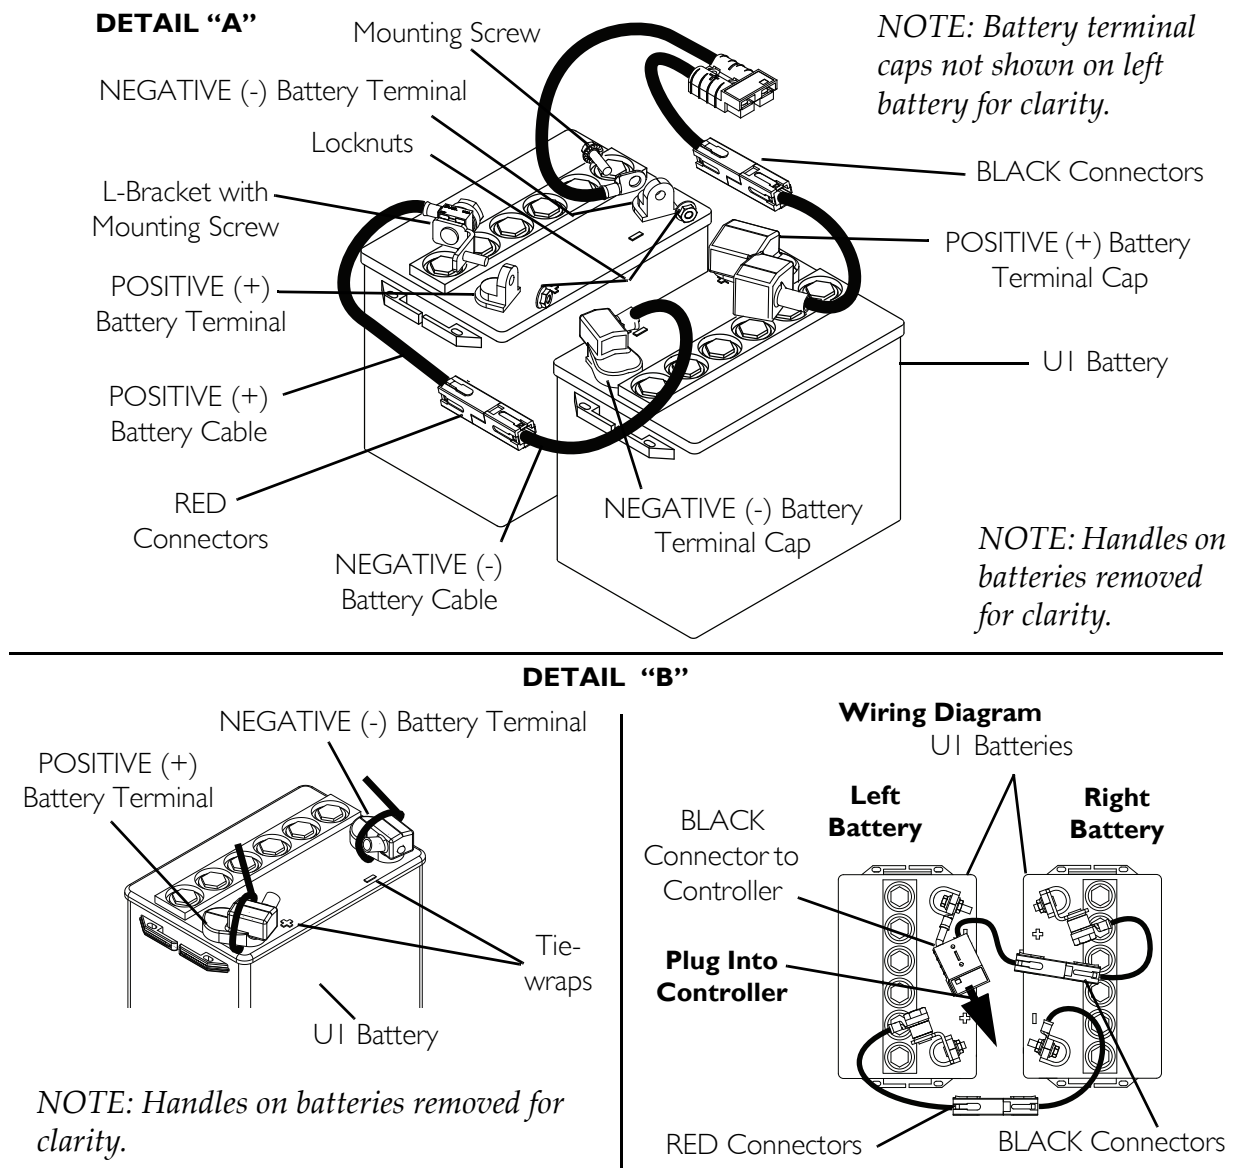
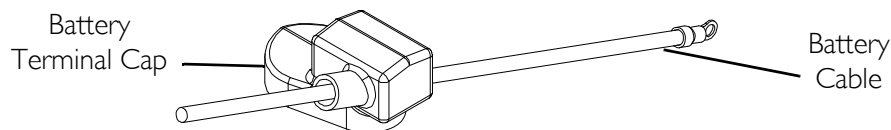

FIGURE 14.2 Connecting/Disconnecting Battery Cables
FIGURE 14.3 Battery Terminal Caps
Battery terminal configuration as shown in Detail “A” of **FIGURE 14.2** **MUST** be used. Batteries that have the terminal configuration reversed **MUST NOT** be used - otherwise serious injury or damage may occur.
When connecting the battery cables to the batteries, the battery cables **MUST be connected to the battery terminals/posts, as shown in Detail “A” of FIGURE 14.2 (depending on battery type), otherwise damage to the battery cable may result when installing battery terminal caps.**
NOTE: For this procedure, refer to FIGURE 14.3 and FIGURE 14.2 on page 69.
1. Connect battery cables to batteries terminals/posts (FIGURE 14.2):
2. Secure the battery cables/ring terminals to the battery terminals/posts, BLACK to NEGATIVE (-) and RED to POSITIVE (+), with the provided 1/4-20 x 5/8-inch hex flange screw and hex flange locknut. Securely tighten (Detail “A” of FIGURE 14.2).
4. Slide terminal caps down battery cables and onto battery clamps (FIGURE 14.2).
5. Secure each terminal cap in place with a tie-wrap (use tie-wraps 11-1/2-inches long) (Detail “B” of FIGURE 14.2).
NOTE: For this procedure, refer to FIGURE 14.2 on page 69 and FIGURE 14.3 on page 70.
3. Cut the tie-wrap that secures the battery terminal cap in place (Detail “B” of FIGURE 14.2).
4. Slide terminal cap(s) UP on the battery cable(s) (FIGURE 14.3).
5. Disconnect POSITIVE (+) RED battery cable from the POSITIVE (+) battery terminal/post (FIGURE 14.2).
6. Disconnect NEGATIVE (-) BLACK battery cable from NEGATIVE (-) battery terminal/post (FIGURE 14.2).